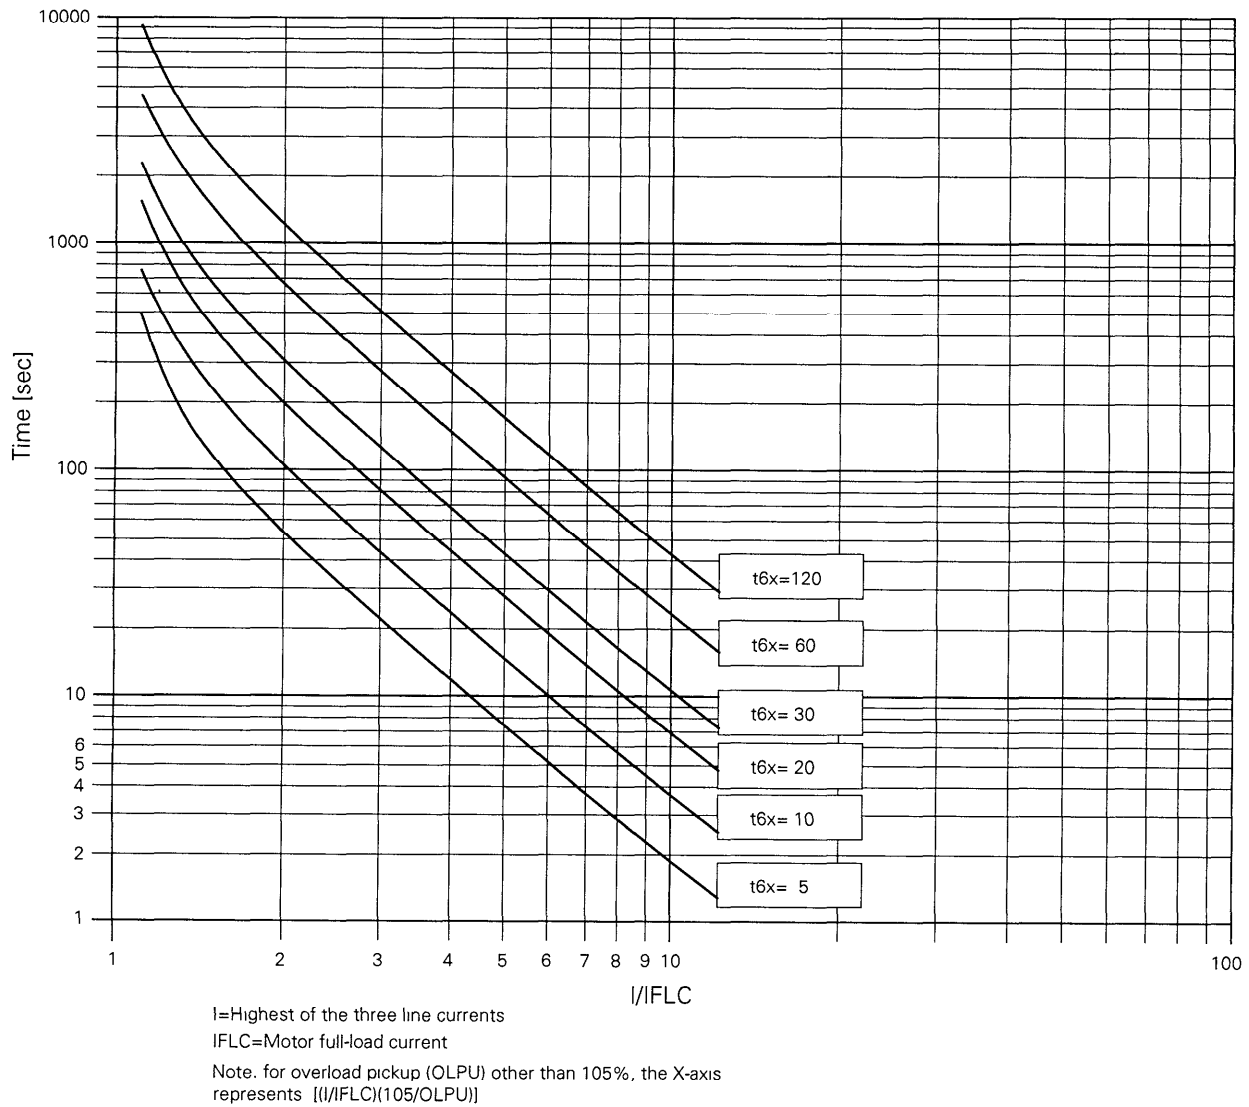

Figure 4-2. Thermal overload protection characteristic curves for a cold motor and overload pickup of 105%.
- 16B. LOW SPEED t6x TIME** – This parameter determines which thermal overload protection curve is used in low-speed operation. It specifies the THERMAL LEVEL 2 operating time at six times the LOW SPEED FLC (with the motor at ambient temperature). Figures 4-2 and 4-3 contain the thermal overload characteristic curves for a cold and hot motor, respectively.
- 16. t6x TIME – This setting, in conjunction with OVERLOAD PICKUP, establishes the overload characteristic curve for THERMAL LEVEL 2 protection. Figures 4-2 and 4-3 contain the families of curves for cold and hot motor conditions.
The overload curves in Figures 4-2 and 4-3 are based on an OVERLOAD PICKUP setting of 105% and a HOT/COLD RATIO of 50%. As shown in Figures 4-2 and 4-3, the t6x TIME setting is the operating time of THERMAL LEVEL 2 at a current equal to six times the MOTOR FLC when it is in cold condition.